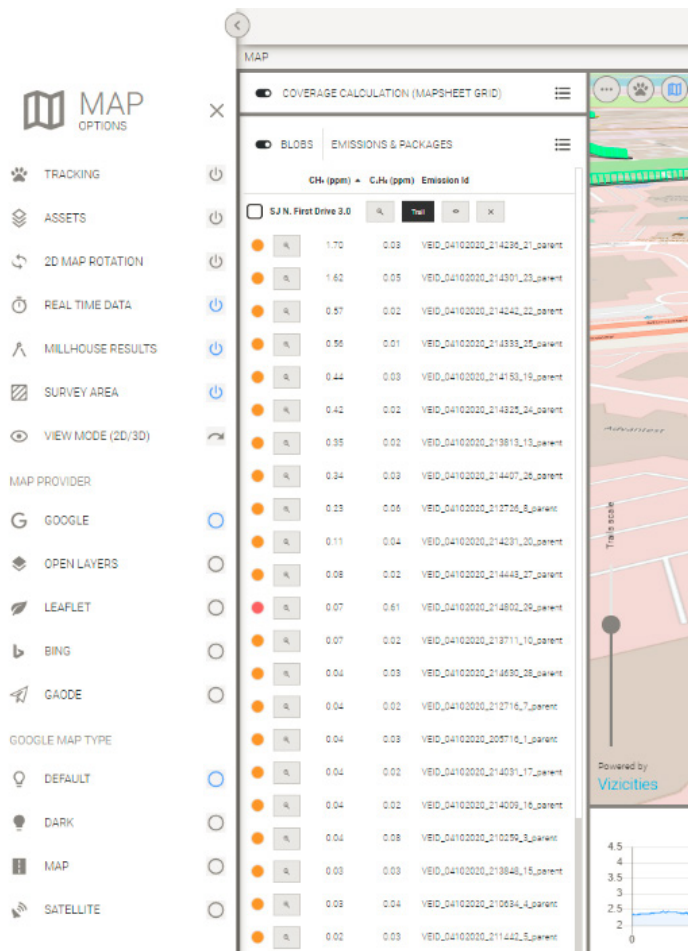

Figure 9 Map Options Sidebar
- **Map Options icon** – Accesses map options. The sidebar changes as shown in Figure 9. To return the sidebar to *Modes* screens, click the icon again, or click the **X** on the sidebar adjacent to *Map Options*. For details, refer to the “Map Options Sidebar” section.